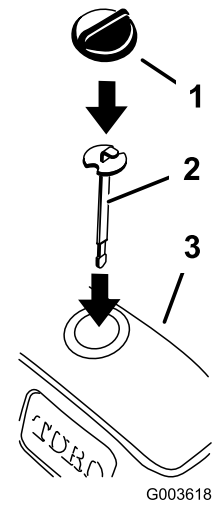

Figure 36
- Insert the new dipstick and check the hydraulic oil level (Figure 36).